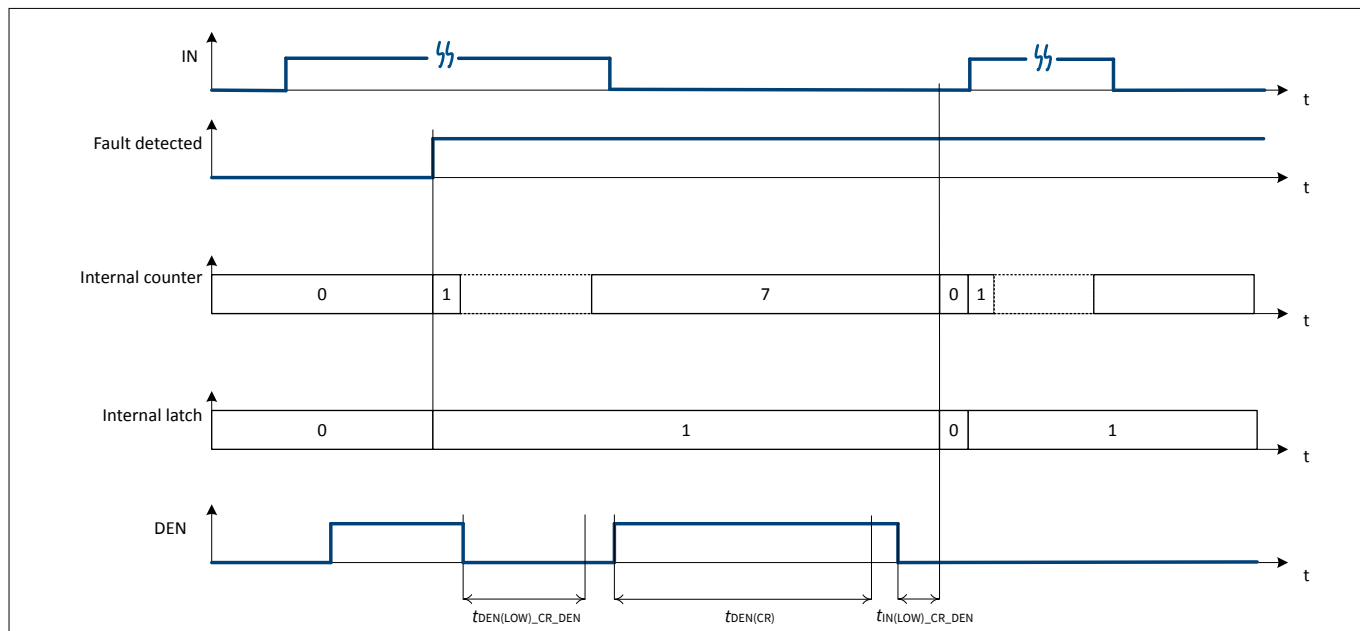

Figure 3 DEN pulse timings for counter or latch reset
There are also other parameters to take into account, as it can be seen in Figure 3.
The parameters for Intelligent Latch devices (LR) are equivalent to those belonging to the device with the Intelligent Restart Control (CR) and are not shown in Figure 3.